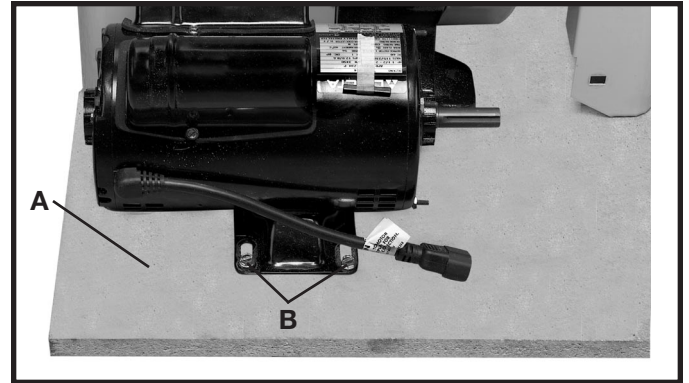

Fig. 2
1. Remove the cardboard box from around the packing skid (A) Fig. 2.
2. Remove the two bolts (B) Fig. 2, with a 3/8" wrench, that attach the motor to the packing skid (A)